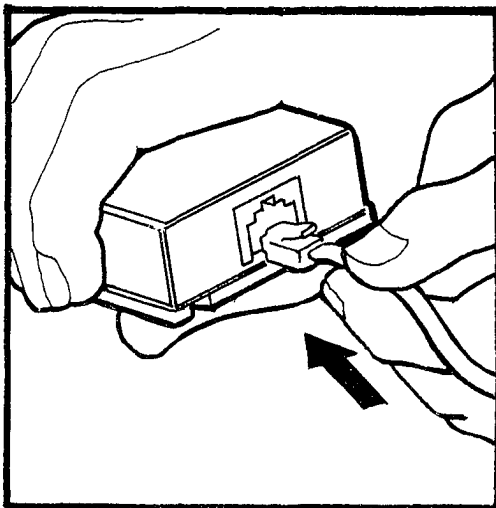

Figure 5-12 PLUGGING IN THE LINE CORD
**6.02** To install the telephone, plug it into the modular jack. All telephones are equipped with modular plugs ( Figure 5-12 ). Refer to Section 9 OPTIONAL EQUIPMENT for installation of an SPDU-6A PCB in a Standard Key Telephone.